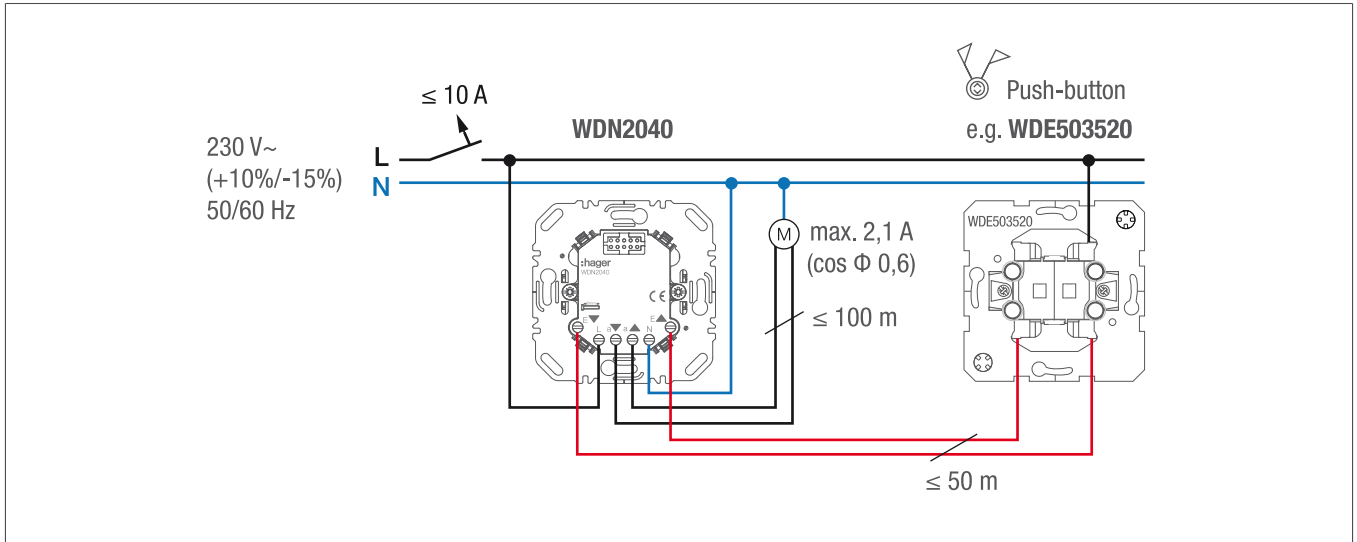

Fig. 3: Individual control with an extension unit for the blind push-button
- Connect the individual control unit with the blind button extension unit in accordance with the connection diagram (Fig. 3).